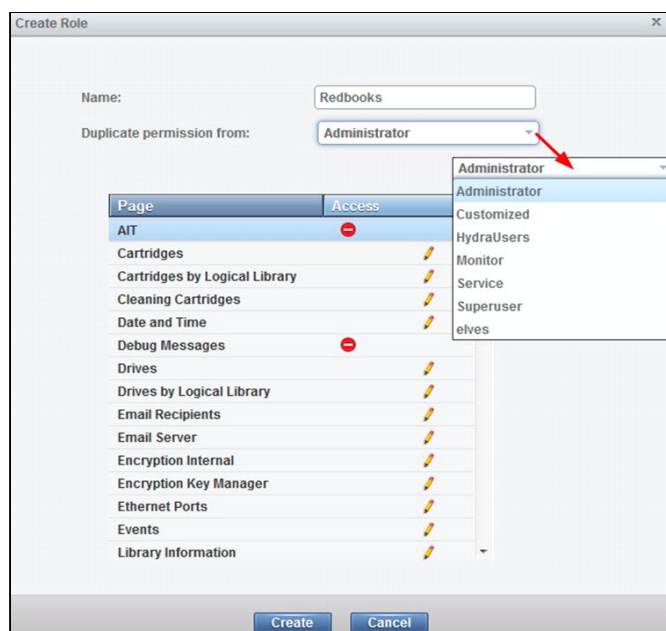

Figure 5-105 Create role window and options
4. Select one of the preset role permission levels from the Duplicate permission from list box (Figure 5-105). All roles can access all logical libraries in the Diamondback tape library.